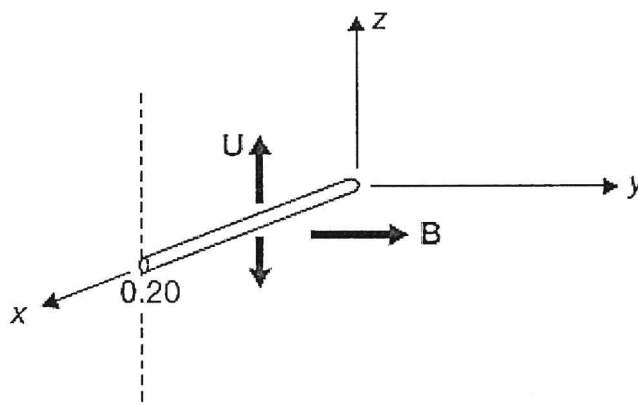

Figure 6: Conducting rod moving in magnetic field.
- (a) Figure 6 shows a conductor in rod form moving with velocity  $U$  in magnetic field  $B$ . The velocity of the conducting rod can be represented as